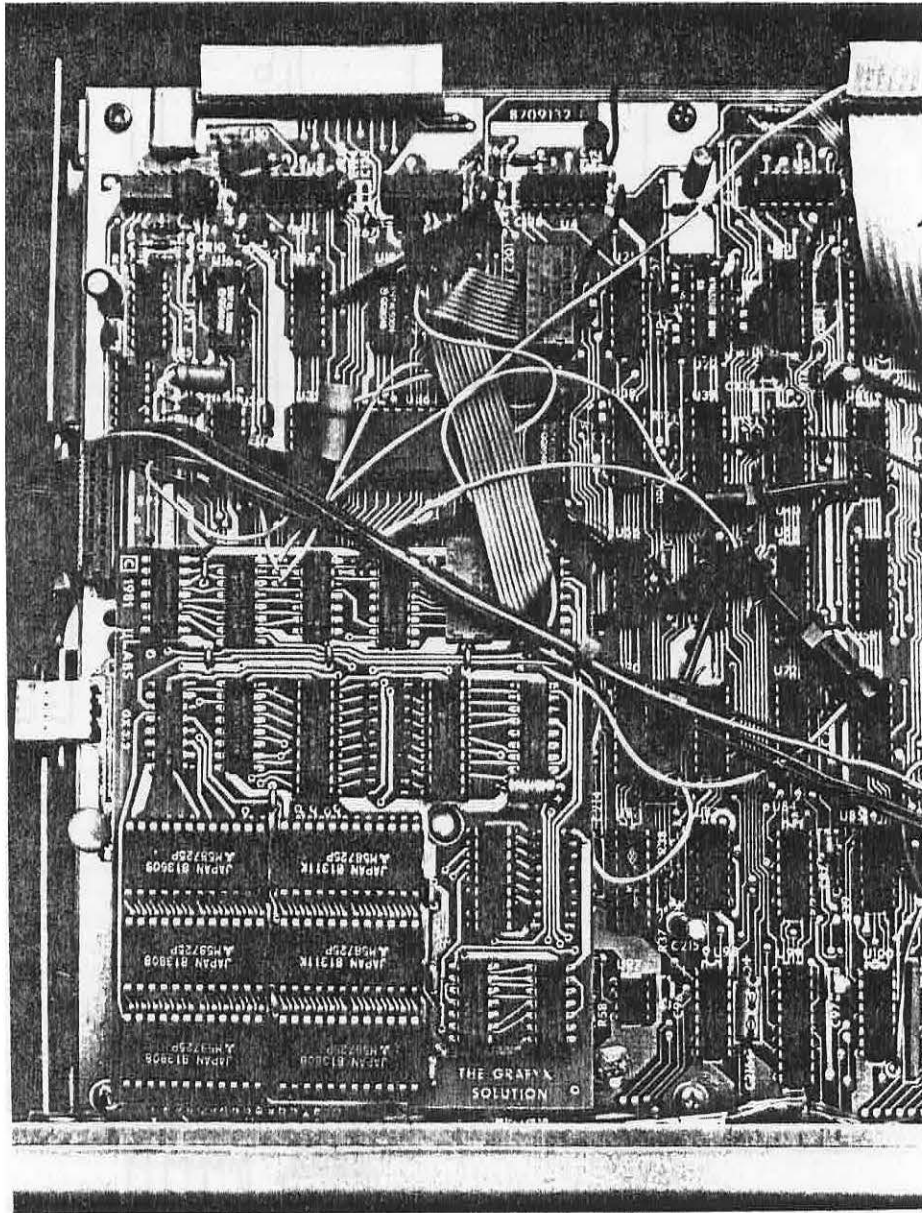

Figure 1 Installed Grafyx Board
6. Pick up the Grafyx board and hold it so that the writing is right side up, and you can see how it will plug into the two sockets which presently contain the IC's mentioned in step 5. You may want to refer to Figure 1 which shows the board completely installed. Now, paying careful attention to the orientation of the two IC's, remove them from the CPU board, and plug them into the corresponding sockets on the Grafyx board. This step must be done with great care in order to keep from bending or breaking any of the pins on the IC's. If you have an IC puller, place it over the IC and rock it back and forth until the IC comes out of the socket. If you don't have an IC puller, use a metal nail file or a small flat blade screwdriver to pry up first one side of the IC and then the other until the IC is clear of the socket. When plugging the IC's into the Grafyx board,
- 9a. Now, very carefully line up the Grafyx board with the two empty sockets. See Figure 1 for a picture showing how the board should look. Note that the board goes under the five wires from the cassette connector. You can now gently work the Grafyx pins into the sockets a little bit at a time, supporting the main TRS-80 circuit board with your hand as much as possible. If the pins will not go into the sockets without excessive pressure, you will need to "break in" the two IC sockets. This is done by inserting and removing a straight pin several times in each of the empty socket holes. After this is done, you will find that the Grafyx board will press all the way into the sockets without excessive force. Once the board has been plugged in, adjust the light so that you can look at it from the side and make sure that the board is plugged ALL THE WAY IN. If not, either apply more pressure or remove the board and "break in" the sockets before re-inserting.